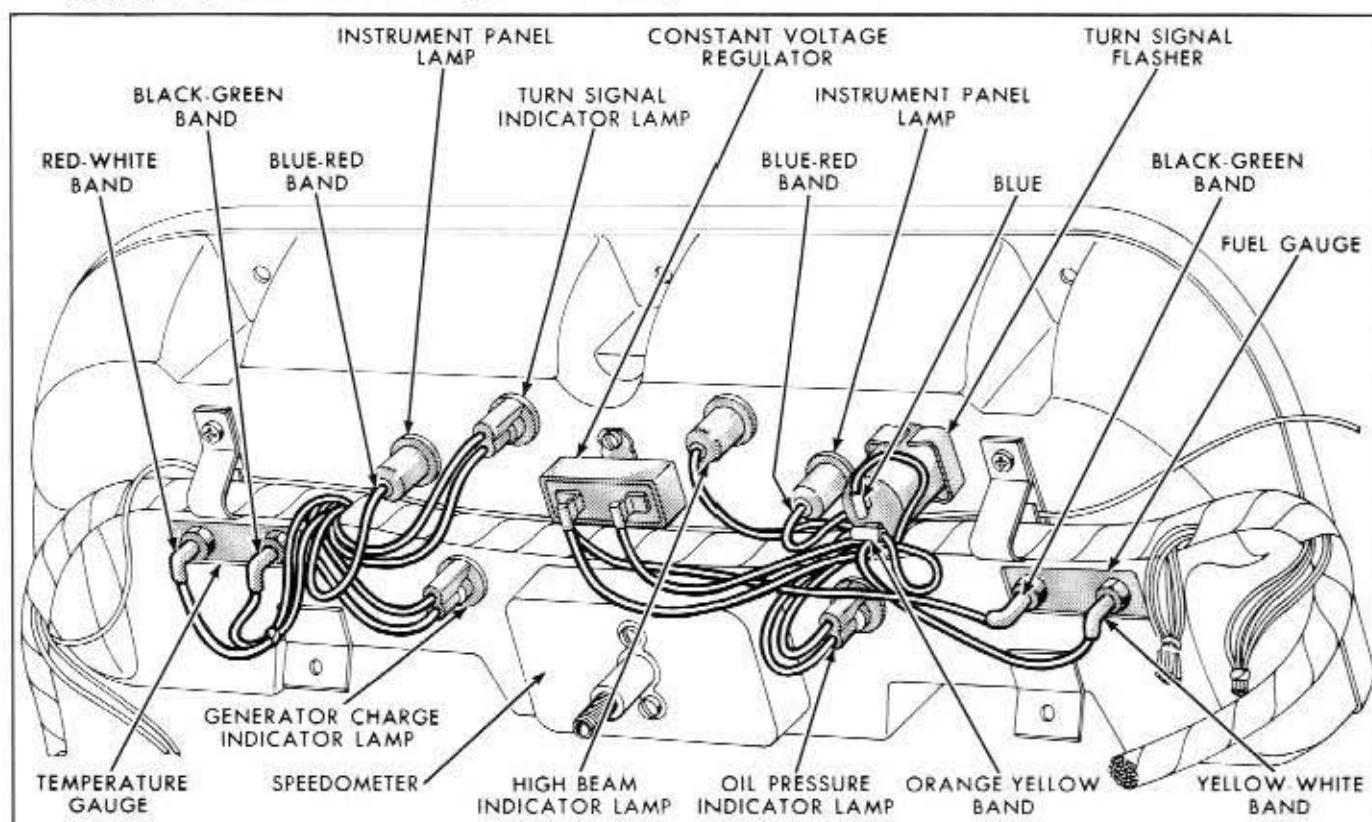

Fig. 10-11—Instrument Cluster—Rear View—(60C-7637)
The instrument cluster as shown in figure 10-11 includes a charge indicator lamp, fuel gauge, temperature gauge, oil pressure indicator lamp, hi-beam indicator lamp, turn signal indicator lamp and speedometer. A gauge voltage regulator maintains a constant voltage supply to the fuel gauge and temperature gauge circuits. All of the instruments are electrically operated except the speedometer.
1. Disconnect the plug on type wire connectors at the constant voltage regulator. See figure 10-11.